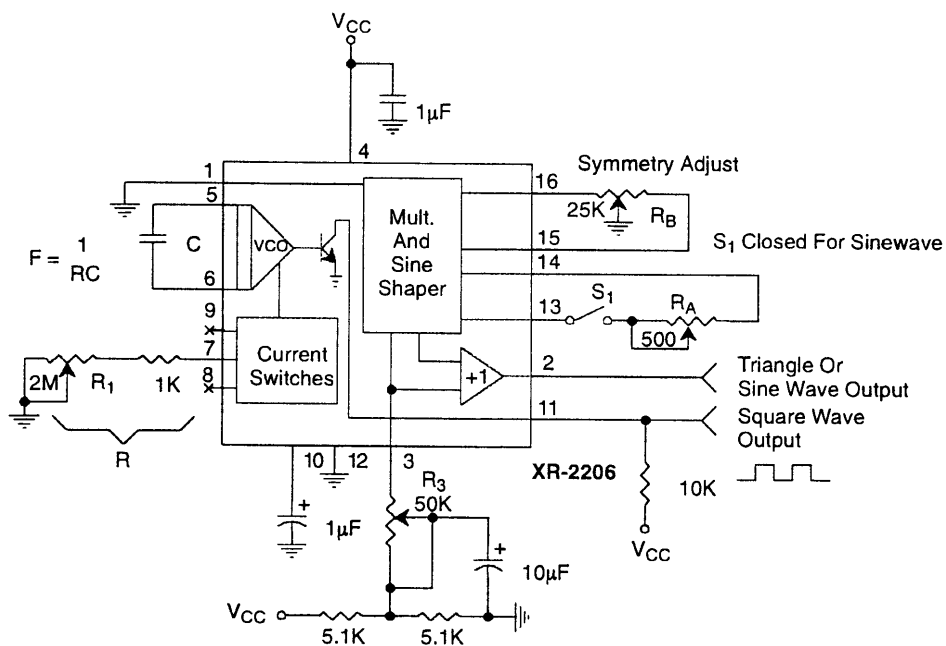
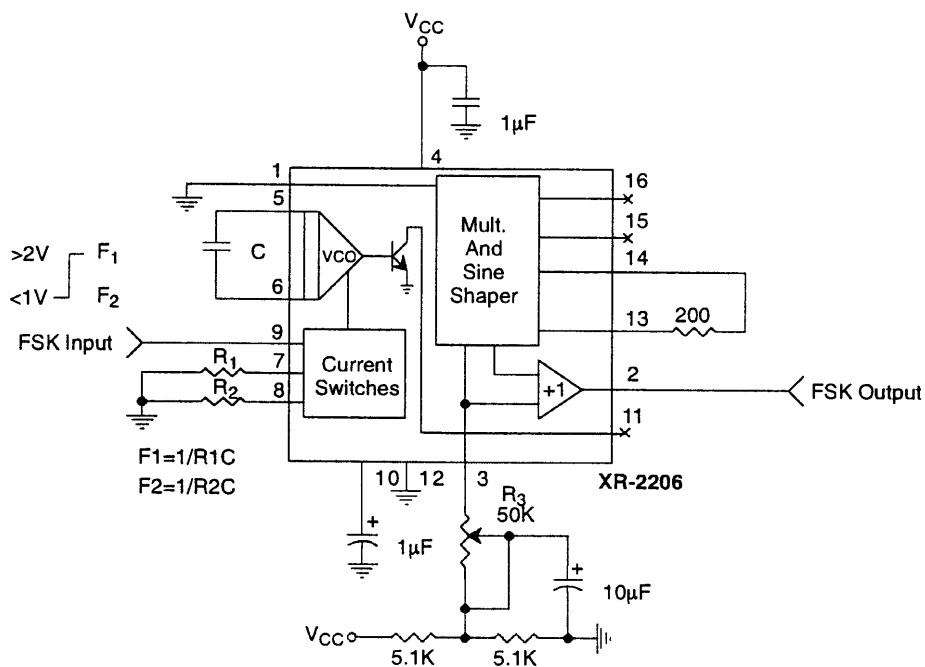

Figure 12. Circuit for Sine Wave Generation with Minimum Harmonic Distortion.
Figure 13. Sinusoidal FSK Generator
The XR-2206 can be operated with two separate timing resistors,  $R_1$  and  $R_2$ , connected to the timing Pin 7 and 8, respectively, as shown in Figure 13. Depending on the polarity of the logic signal at Pin 9, either one or the other of these timing resistors is activated. If Pin 9 is open-circuited or connected to a bias voltage  $\geq 2V$ , only  $R_1$  is activated. Similarly, if the voltage level at Pin 9 is  $\leq 1V$ , only  $R_2$  is activated. Thus, the output frequency can be keyed between two levels,  $f_1$  and  $f_2$ , as:
The dc level at the output (Pin 2) is approximately the same as the dc bias at Pin 3. In Figure 11, Figure 12 and Figure 13, Pin 3 is biased midway between  $V^+$  and ground, to give an output dc level of  $\approx V^+/2$ .
The harmonic content of sinusoidal output can be reduced to -0.5% by additional adjustments as shown in *Figure 12*. The potentiometer,  $R_A$ , adjusts the sine-shaping resistor, and  $R_B$  provides the fine adjustment for the waveform symmetry. The adjustment procedure is as follows:
The circuits of *Figure 11* and *Figure 12* can be converted to triangle wave generation, by simply open-circuiting Pin 13 and 14 (i.e.,  $S_1$  open). Amplitude of the triangle is approximately twice the sine wave output.
*Figure 13* shows the circuit connection for sinusoidal FSK signal operation. Mark and space frequencies can be independently adjusted by the choice of timing resistors,  $R_1$  and  $R_2$ ; the output is phase-continuous during transitions. The keying signal is applied to Pin 9. The circuit can be converted to split-supply operation by simply replacing ground with  $V^-$ .